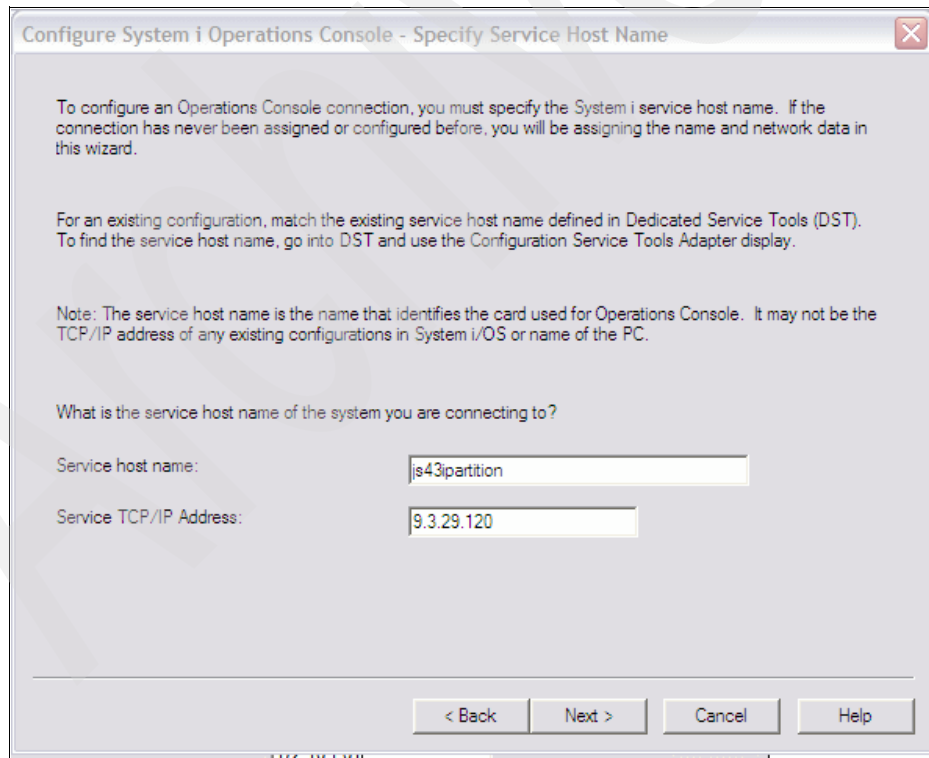

Figure 7-39 IBM System i Operations Console - enter the Service TCP/IP Address
If the Service host name is already defined on the host file of the console PC, then the window will resolve the IP address automatically and fill in the field as shown in Figure 7-39 on page 278.
7. In the next window, shown in Figure 7-39, enter the service TCP/IP address, and then, click **Next** to continue.